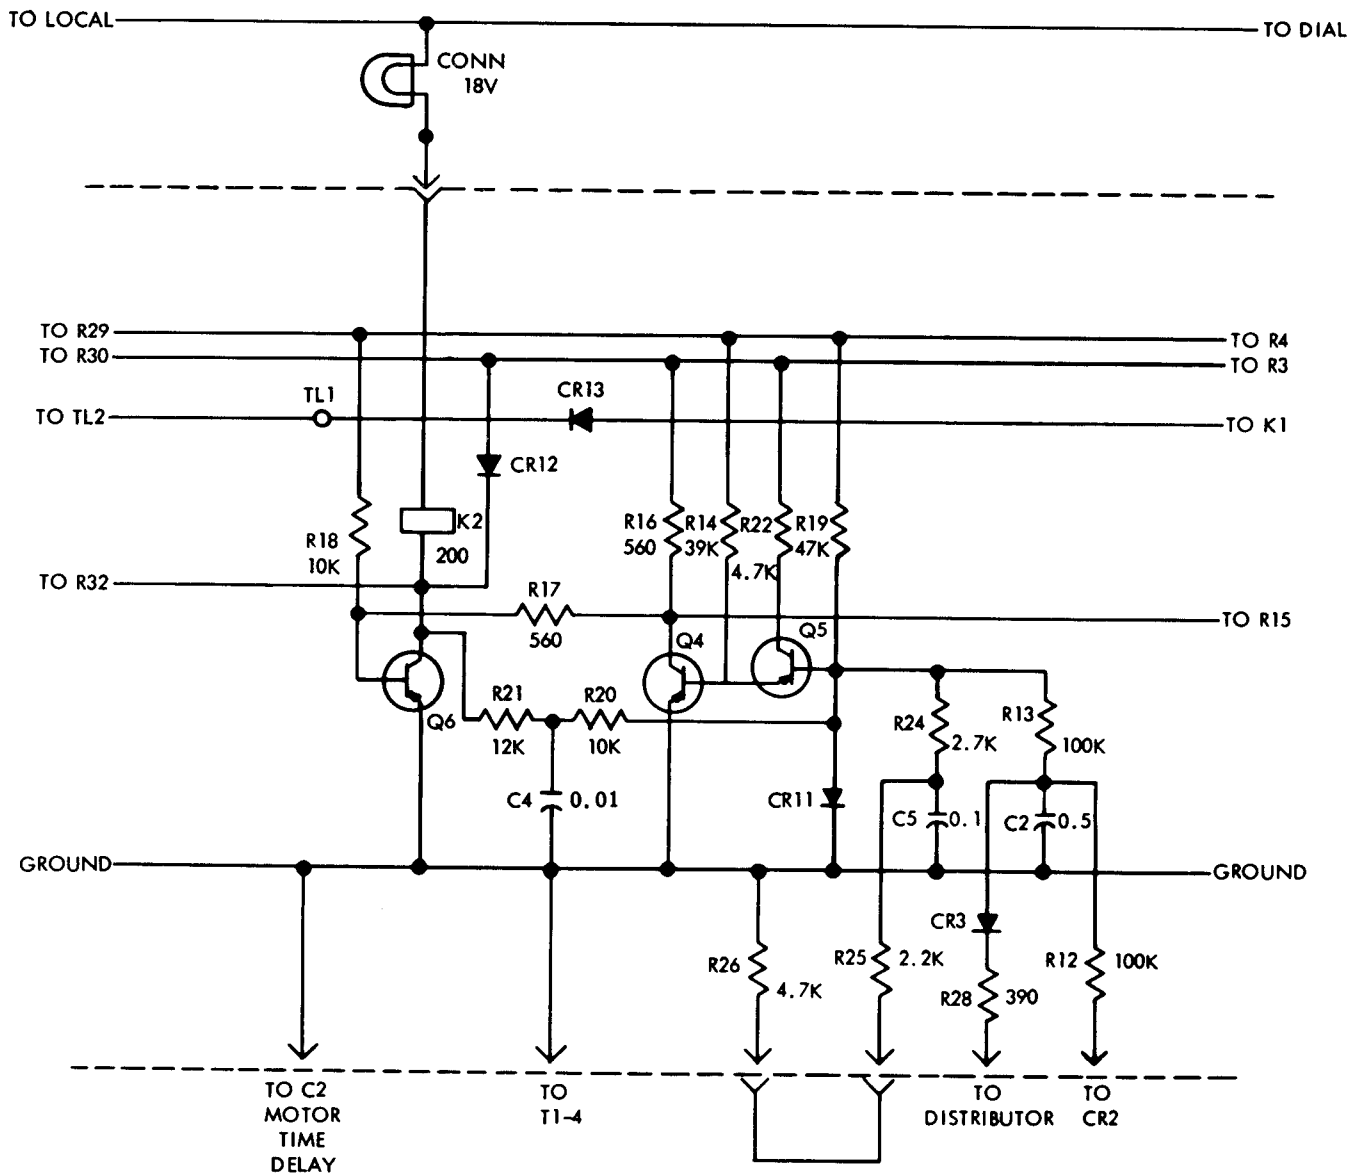

Figure 3 - Connect Circuit
3.07 The connect circuit (Figure 3) consists of a binary (Q4 and Q6) of which one side is driven by emitter follower Q5. The only control input to this circuit is by the